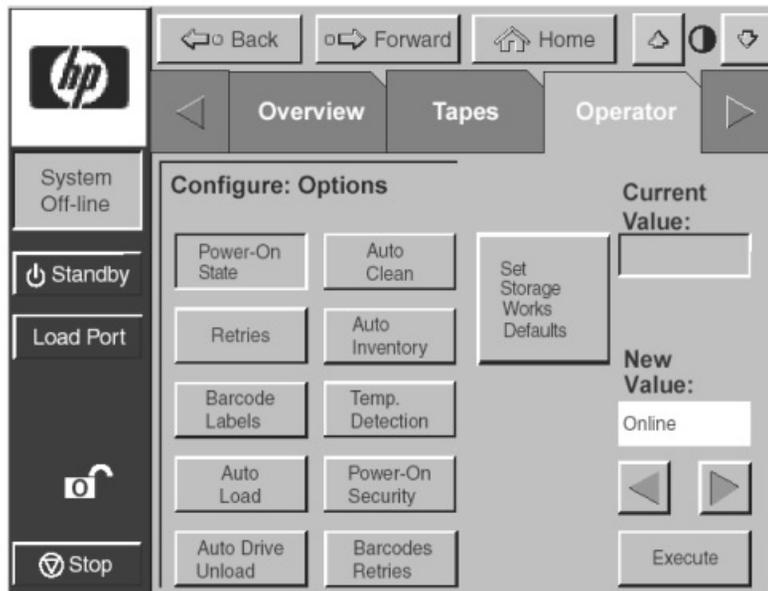

Figure 32: Configure: options screen
1. From the **Operator** screen, press the **Configure Options** button. The control panel displays the **Configure: Options** screen (see Figure 32).